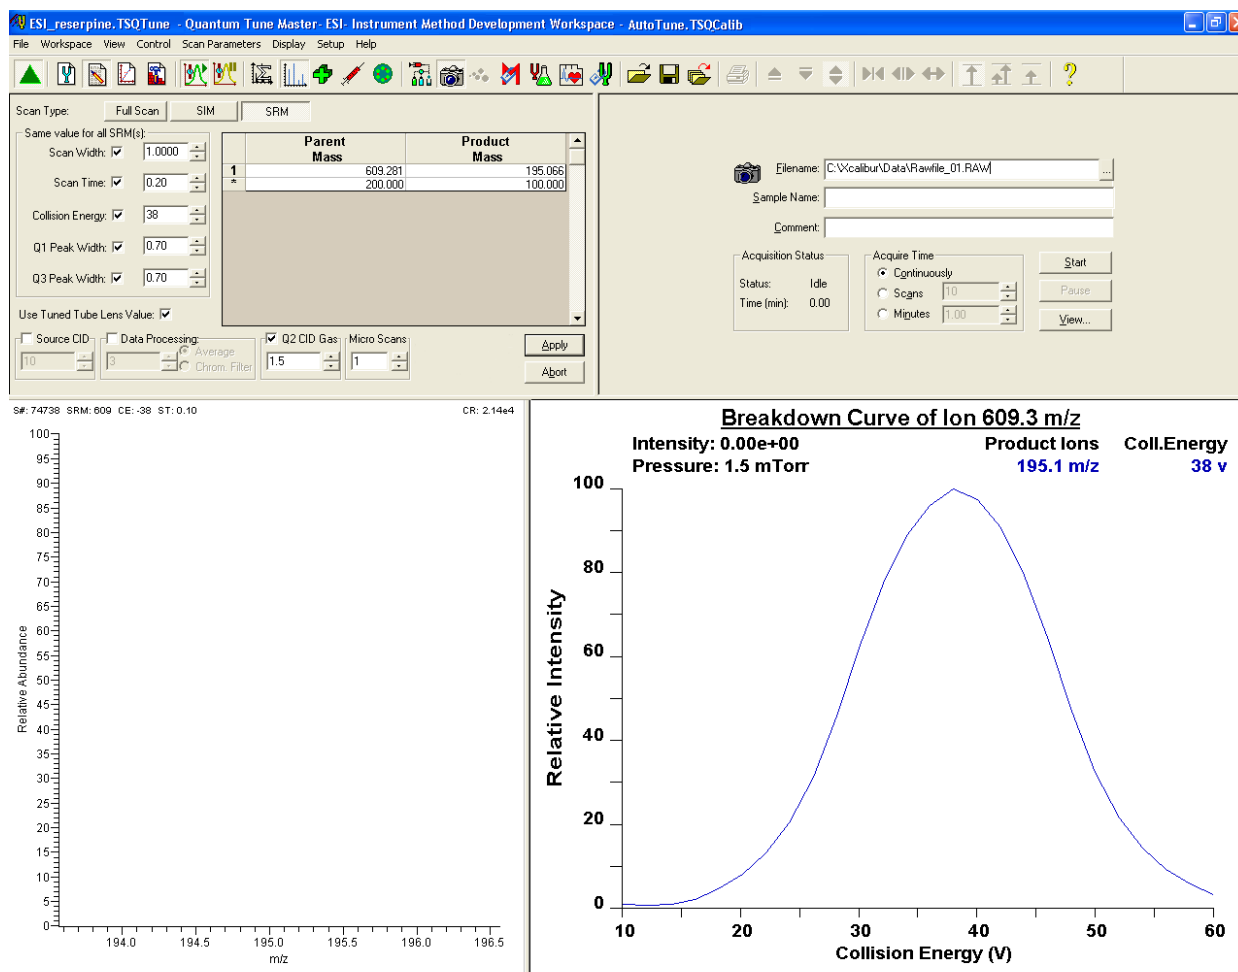

Figure 5-7. Instrument Method Development workspace
4. On the Control / Scan Mode toolbar, click on the Instrument Method Development Workspace button to open the Instrument Method Development workspace. See Figure 5-7.